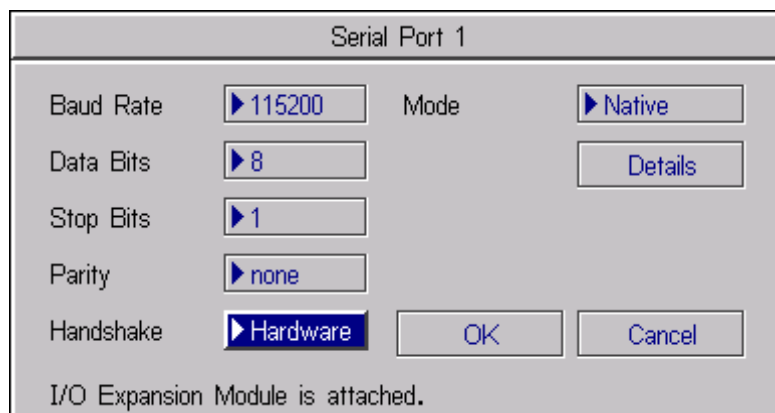

Figure B-6: Serial Port Dialog, Hardware Handshaking Enabled (PC Host)
4. Select Hardware from the Handshake drop-down list (Figure B-6).